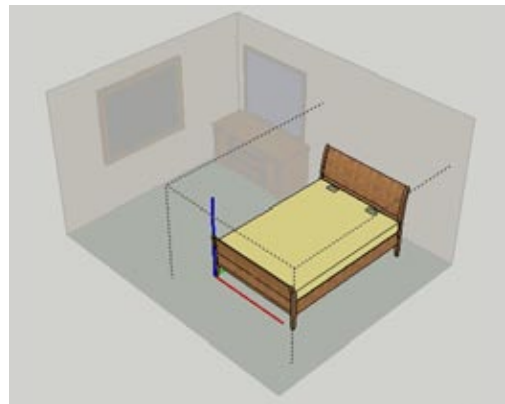

Figure 10-48
7. Enter the desired length of *1900mm* and confirm that you want to resize the component. You might have to move your resized bed into place within the room. The entire bed resizes, except for the pillows. The pillows are nested components within the bed component, so they retain their original size (Figure 10-48).